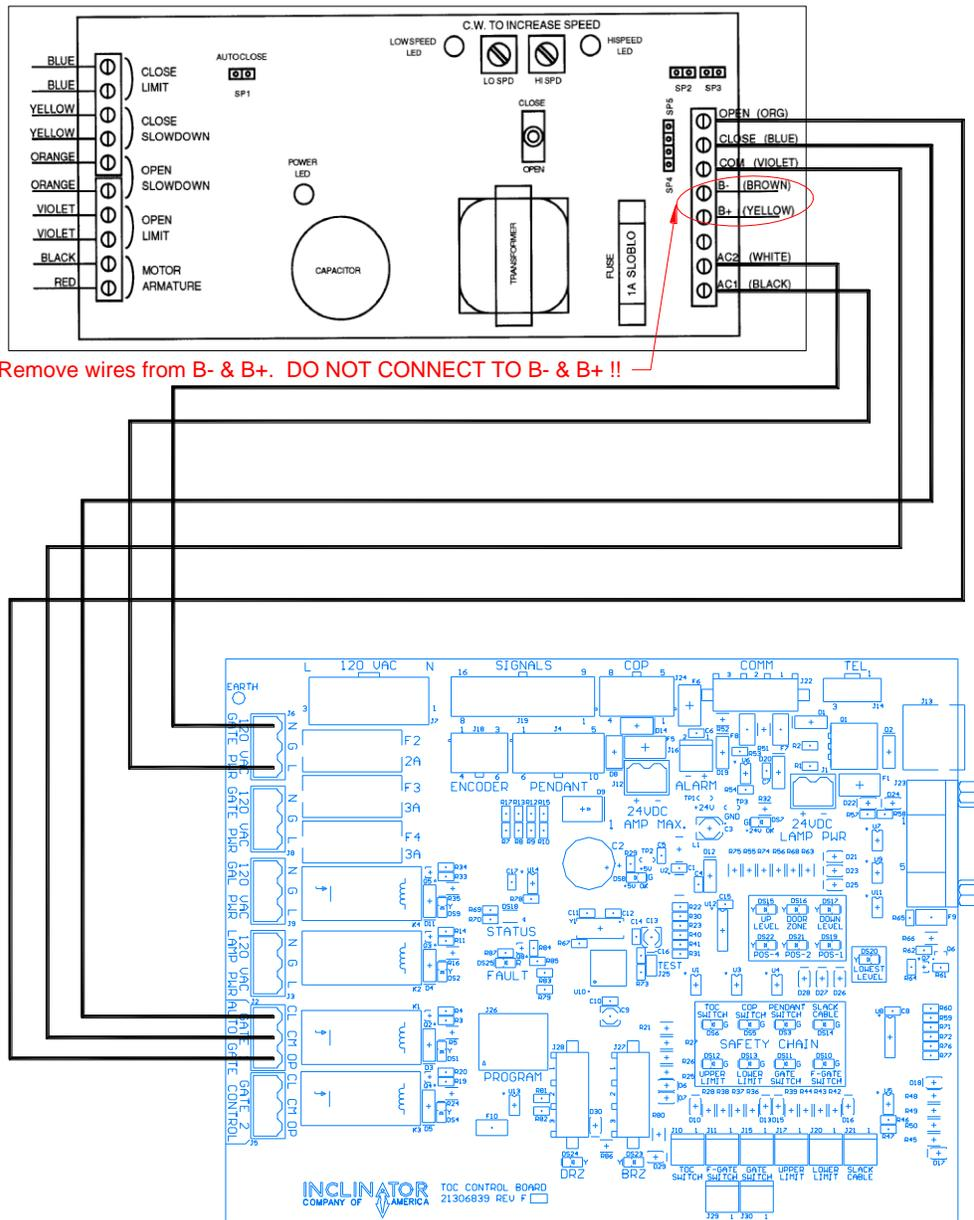

Figure 35 - Typical Auto Gate Power & Control Wiring
4. *Be sure to configure Auto Gate(s) in the UC601 setup menu. But most importantly, the Auto Gate itself must be configured for manual operation through its open & close dry contact inputs. Do not enable auto-close on the gate operator. See the Auto Gate manual for further details. See Figure 35 - Typical Auto Gate Power & Control Wiring*